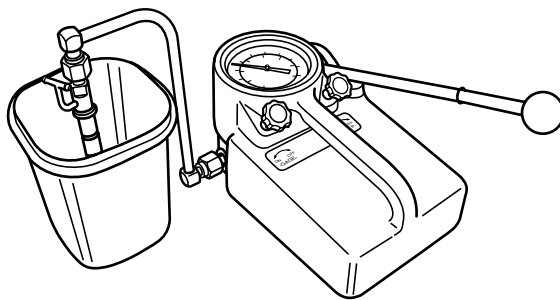

Figure 7-48
4. Pump the operating lever of the tester slowly, observing the pressure reading at the point where the fuel injector begins spraying fuel (**Figure 7-48**).